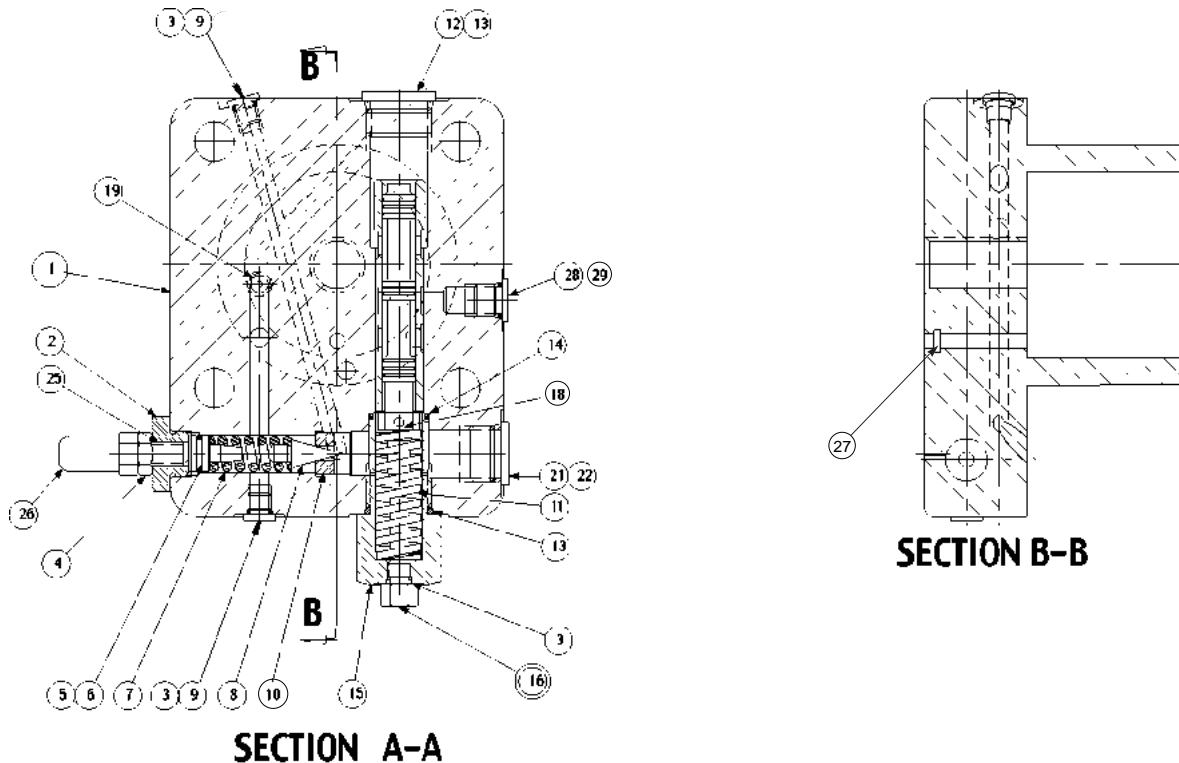

FIGURE 10
2. Remove all parts from torque limiter body (16) except pin (30) and arm assembly (28). It is not necessary to remove these parts unless broken or worn. Examine parts for wear or damage.
3. Remove screw (3). Examine head for excessive wear, and body for smooth sealing surface with O-ring.
5. Remove cap assembly (1).
6. See Figure 10. Remove plug (15) and attached parts. Remove spring (11) and spool (18).
7. Remove adjusting plug (2) and attached parts. Remove spring (7) and cone (8).
8. Do not remove sleeve in body (1). Sleeve is pressed into cap and finished to size. If sleeve or cap is worn, replace the cap-sleeve assembly (1).
9. Examine seat (10) for wear. Do not remove unless damaged.
1. See Figure 10. Install plugs (9) O-rings (3) and orifice (19) in body.
2. Press seat (10) into bore squarely against shoulder in bore.
3. Install spool (18) into bore as shown. Install spring (11) over end of spool. Install O-ring (3) on plug (16). Lubricate and install into plug (15). Install plug (15) into cap. Install plug (12).
4. Torque plugs to 75 lb.*ft. (102 Nm). Install plug (21). Torque to 46 lb.*ft. (62 Nm). Install plug (28). Torque to 11 lb.*ft. (15 Nm).
5. Install O-ring (6) on seal piston (5). Lubricate O-ring and Install cone (8), spring (7) and seal piston (5) into bore in cap (1), being careful that cone enters seat (10). Install adj. plug (2), screw (25), nut (4) and acorn nut (26).
6. Carefully install O-ring (27) in the cap.
Ref. Figure 10
PARTS LIST FOR FIGURE 10